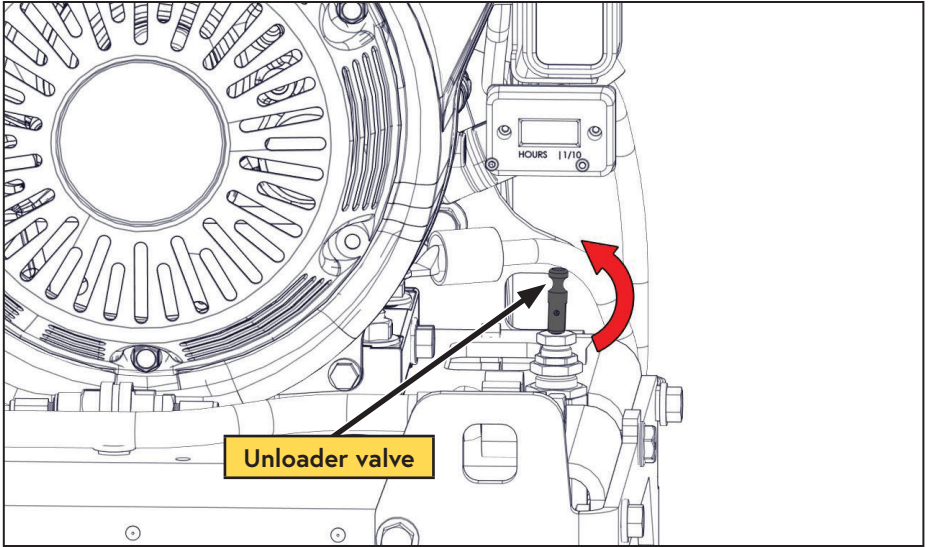

Figure 12 — Unloader valve
4) Actuate the unloader valve by pulling out the handle (Figure 12).